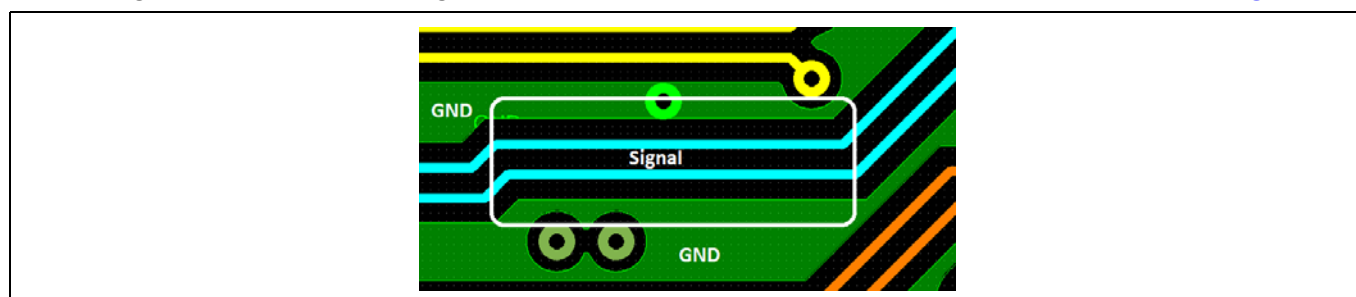

Figure 8 PWG example
- Select a grounded coplanar waveguide (CPWG) system as a transmission line method, as shown in Figure 8